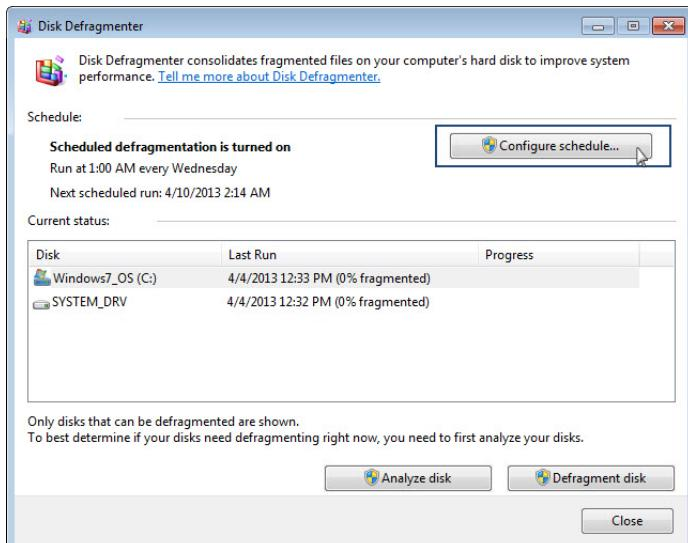

Figure 2-13. Deactivating automatic defragmentation (B)
- 2 In the *Disk Defragmenter* dialog box that appears, click **Configure schedule** (see Figure 2-13).